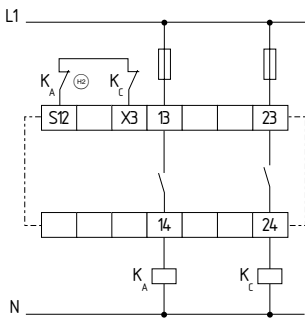

Fig. 7
**Single-channel control with feedback circuit (Fig. 7)**